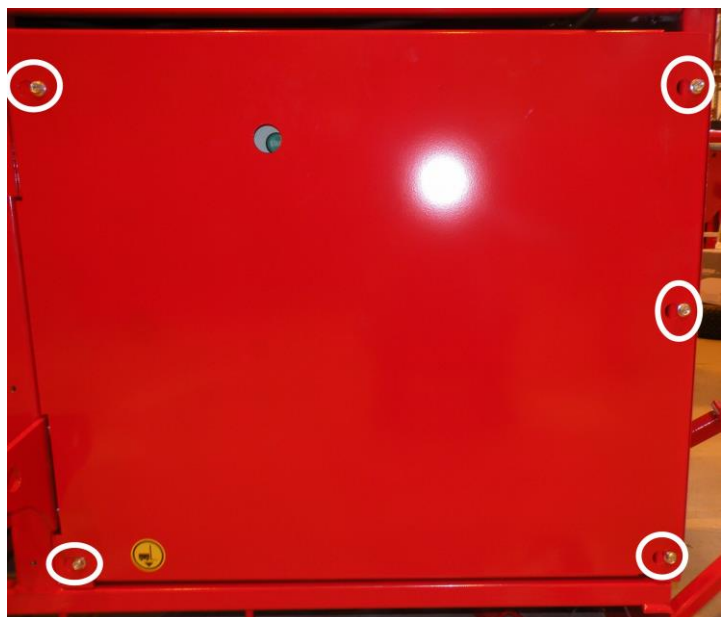

Figure 23.
2. Remove the cover plate shown in Figure 23. Note! The fastening bolts (5 pcs) do not have to be removed completely. Simply loosen the bolts and slide the cover plate so that the bolt heads fit through the hole.